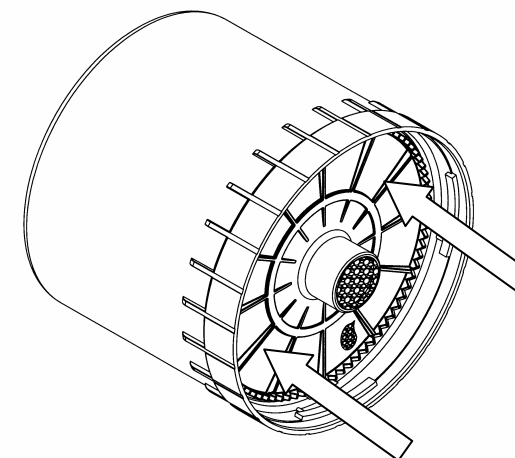

Figure 6
- f) Push the PRO LC-unit into the protection cover until lubricant comes out of the opening. (refer to figure 6, chapter 4).
- ◆ Push the PRO LC-unit into the protection cover until lubricant comes out of the opening (refer to figure 6).